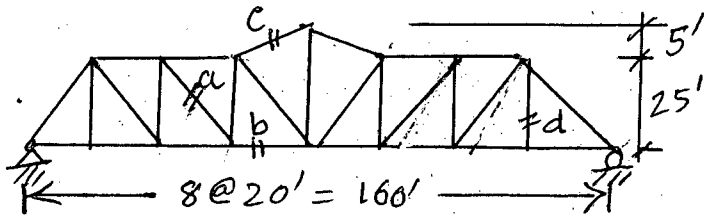
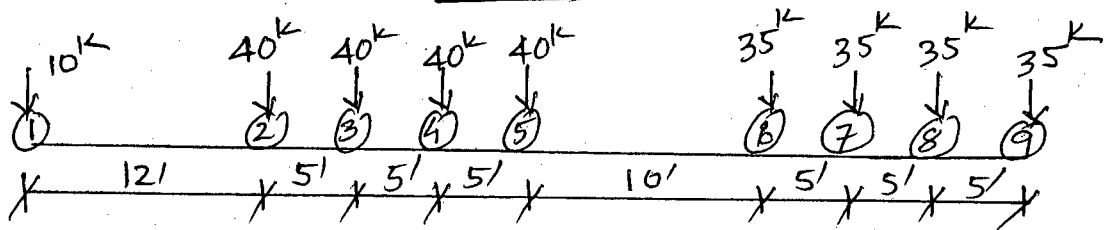

Fig. 8
Fig. 12
9. For the truss shown in Fig. 8, draw influence line diagram for bar force in members "a", "b", "c" and "d". (28)
14. Compute maximum tension in member "a" of the truss shown in Fig. 8. The wheel loads are shown in Fig. 12. (28)